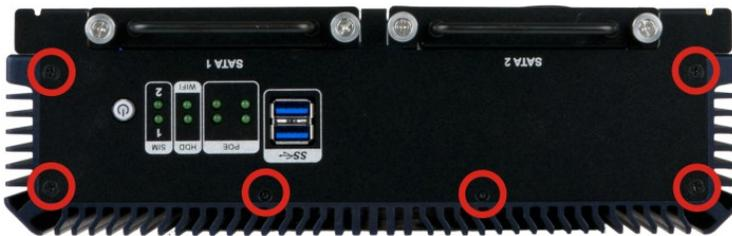

Figure 3-3: Front Panel Retention Screws
Step 4: Remove the front panel retention screws to detach the front panel from the chassis (Figure 3-3).